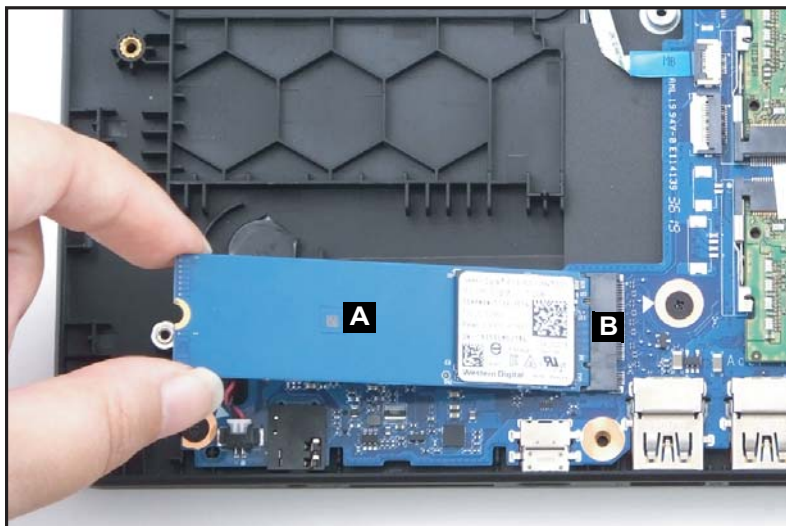

Figure 1-19. SSD Module Removal
2. Remove the SSD module (A) from the mainboard connector (B) (Figure 1-19).